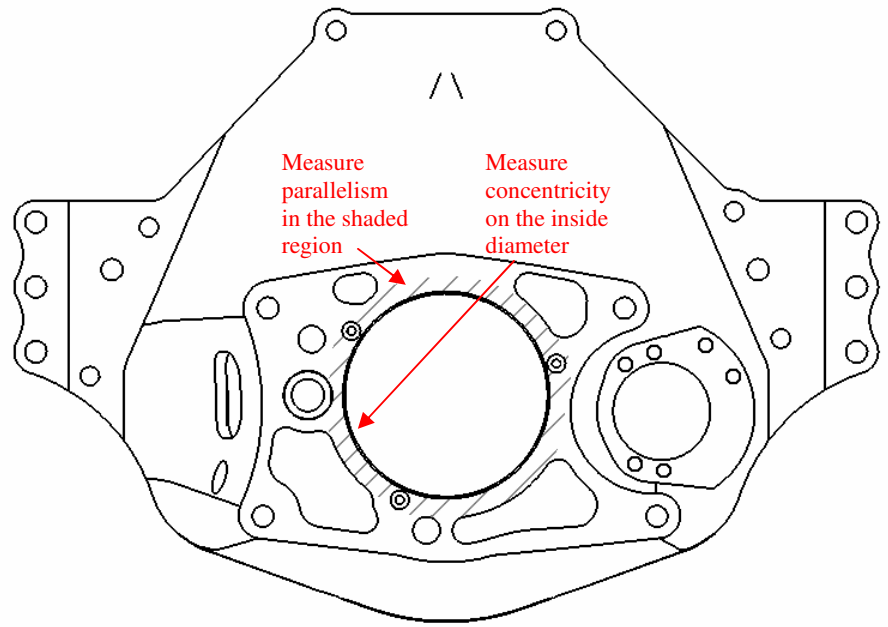

Figure 2: Back view of bellhousing
- With the bellhousing bolted to the engine, check that the transmission mounting face of the bellhousing is parallel to the crankshaft face within .006" total indicated run-out. Clean block mounting surface, making sure that it is free from nicks, burrs, paint, etc. Refer to Figure 2.
- The transmission mounting hole of the bellhousing should be concentric to the crankshaft within .006" total indicated run-out. *The closer, the better.* Refer to Figure 2. If the measurement is not within specification, you will need to relocate the dowel pins in the engine block. Note: Quarter Master bell housings meet or exceed these requirements from the factory.